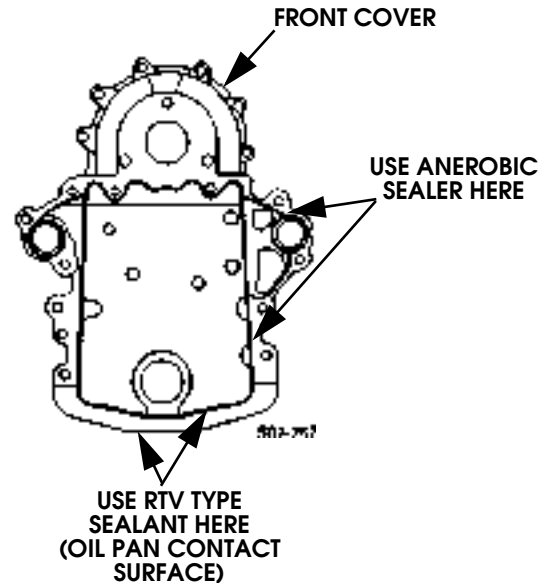

Figure 2-27: Front Cover Sealer Application Diagram
- Refer to sealer application diagram (Figure 2-27).